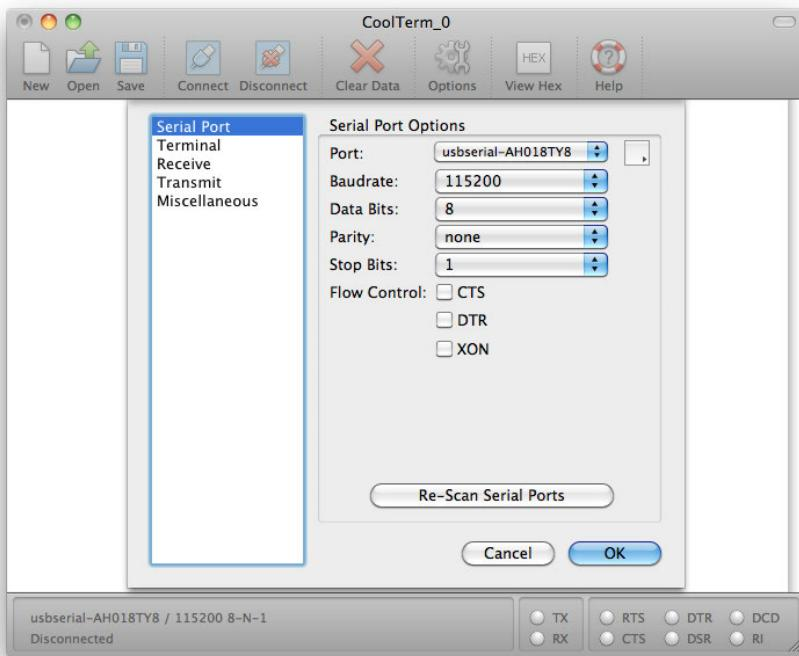

Figure H-3. Selecting the speed and serial port in CoolTerm
10. Check the box for "Handle BackSpace Character" to enable it (Figure H-3).